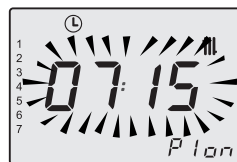

Fig. 2.14
Press key 12 followed by key 16 to program the first ignition period (PI on), confirm by pressing key 12, the subsequent off time (PI off) is already prompted with an additional 15 minutes (minimum programming interval); to modify this, press key 12 followed by key 16 and confirm by pressing key 12. Repeat this sequence for P2 on and P2 off, ..., P4 on and P4 off, for every day or group of days selected (Fig. 2.14).